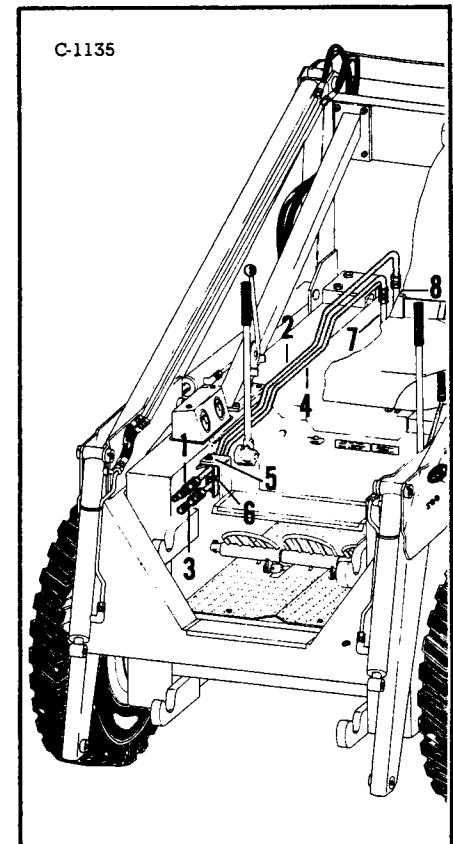

Fig. 166 Mounting Auxiliary Kit
- With two 1/2" NPT x 1/2" 37° Flare straight adapters connect the male half of the quick coupler (Figure 166, Item 1) to the longer tube (Item 2) and the female half of the quick coupler (Item 3) to the shorter tube (Item 4) and tighten securely.